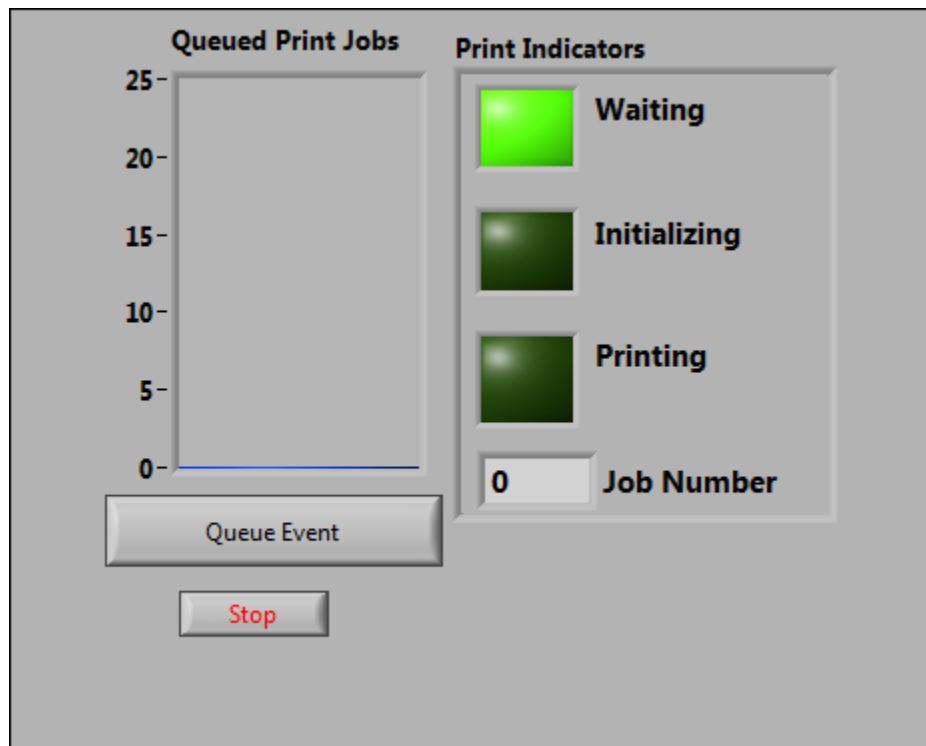

Figure 1. Front Panel of Print Console
2. Open and run the Print Console VI. The front panel of this VI is shown in Figure 1.